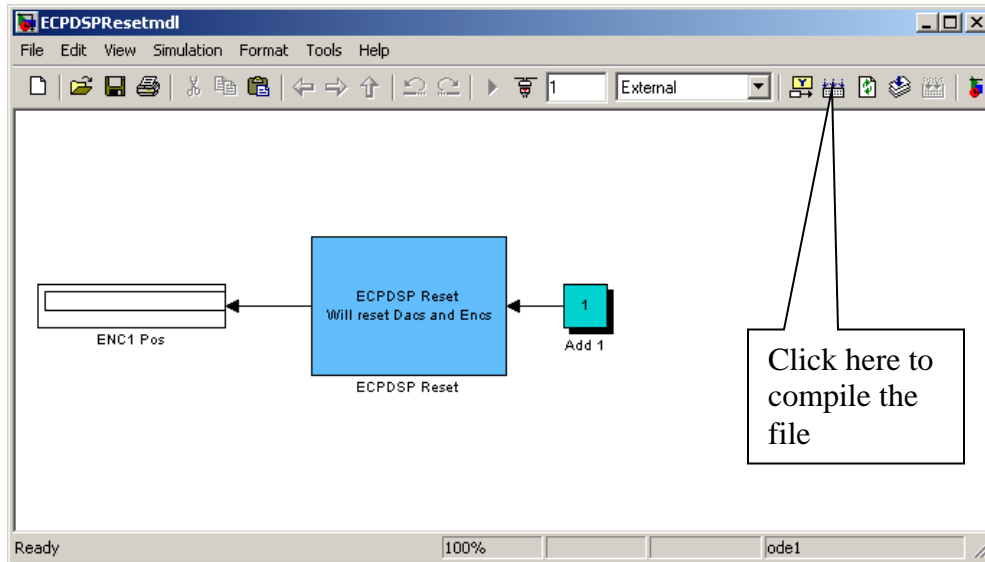

Figure 3: Compiling ECPDSPReset.mdl
- Compile** the **ECPDSPReset.mdl** file by clicking on the icon shown in Figure 3. Make sure to wait for the file to finish compiling when the messages in the MATLAB command window stop. Ignore any errors and continue.